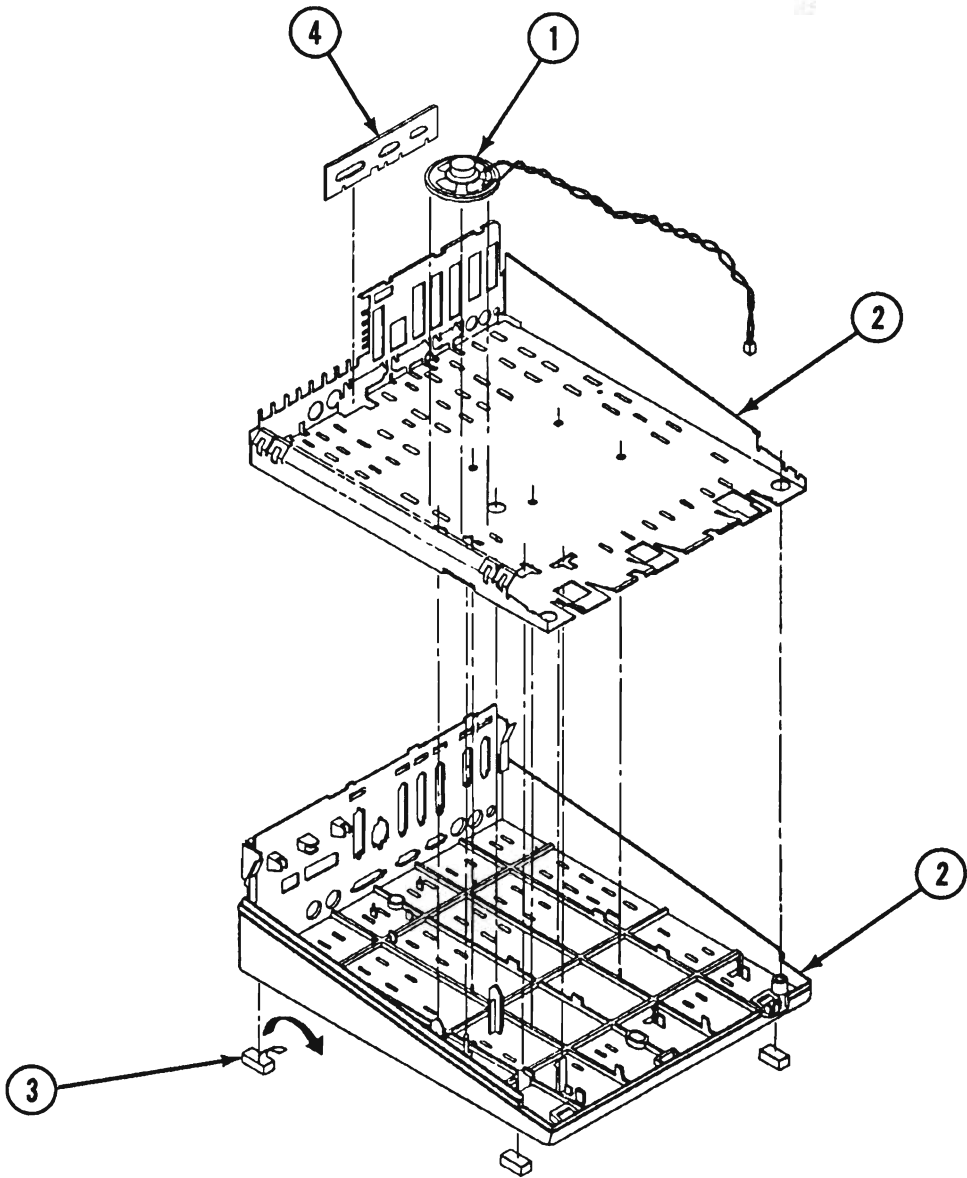

FIGURE 2
- IPL.5 Base Assembly (Figure 2)
□ **APPLE IIGS—BASE ASSEMBLY (Figure 2)**